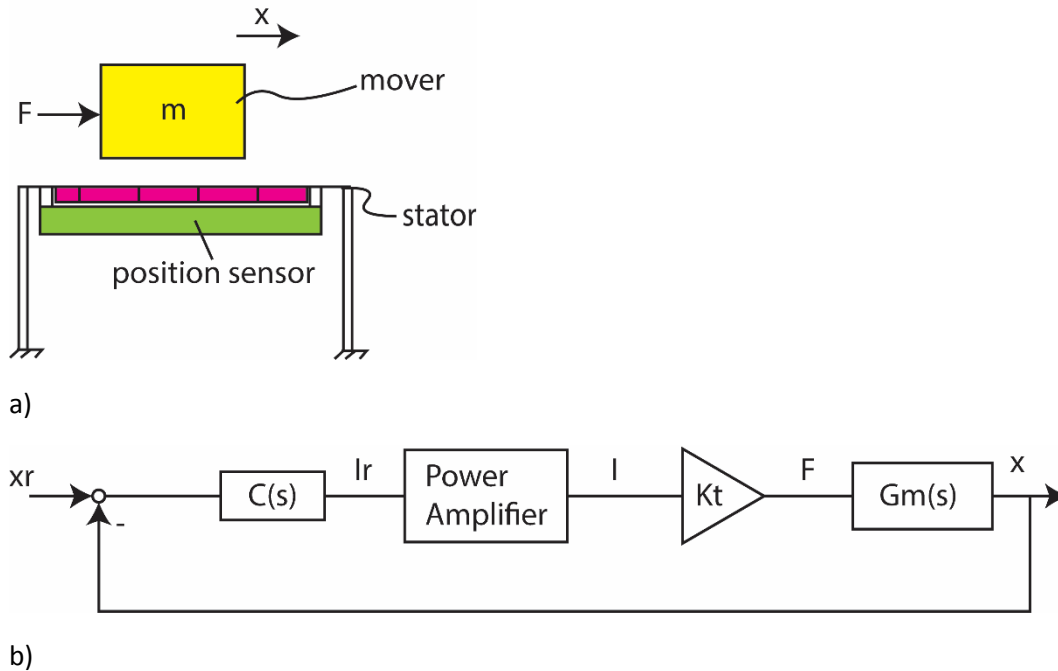

Figure 1.
The planar motor technology was invented at UBC during 2012. The mover, which is a permanent magnet array, is levitated over the stator as shown in Figure 1 a). There is a coil in the stator to produce magnetic field to drive the mover. A feedback sensor, which can measure the position of the mover along X, is installed within the stator underneath the coil. The feedback control loop is designed as shown in Figure 1 b). The motor constant $K_t = 10\text{N/A}$, the mass of the mover is 0.5 kg.
The frequency response of the plant (moving along X axis), $X(s)/I_r(s)$, is measured by a dynamic signal analyzer (DSA), and the results are shown in Figure 1.
4) (10 pts) In the planar motor system as shown in Figure 1, if the mover is levitated, why is there a resonance around 220 Hz? Can you match the stiffness and mass, which are obtained in Question 2, to the planar motor system? (i.e. which part in planar motor is stiffness or mass?) Can you improve the bandwidth of the motion control loop by mechanically modifying the system?